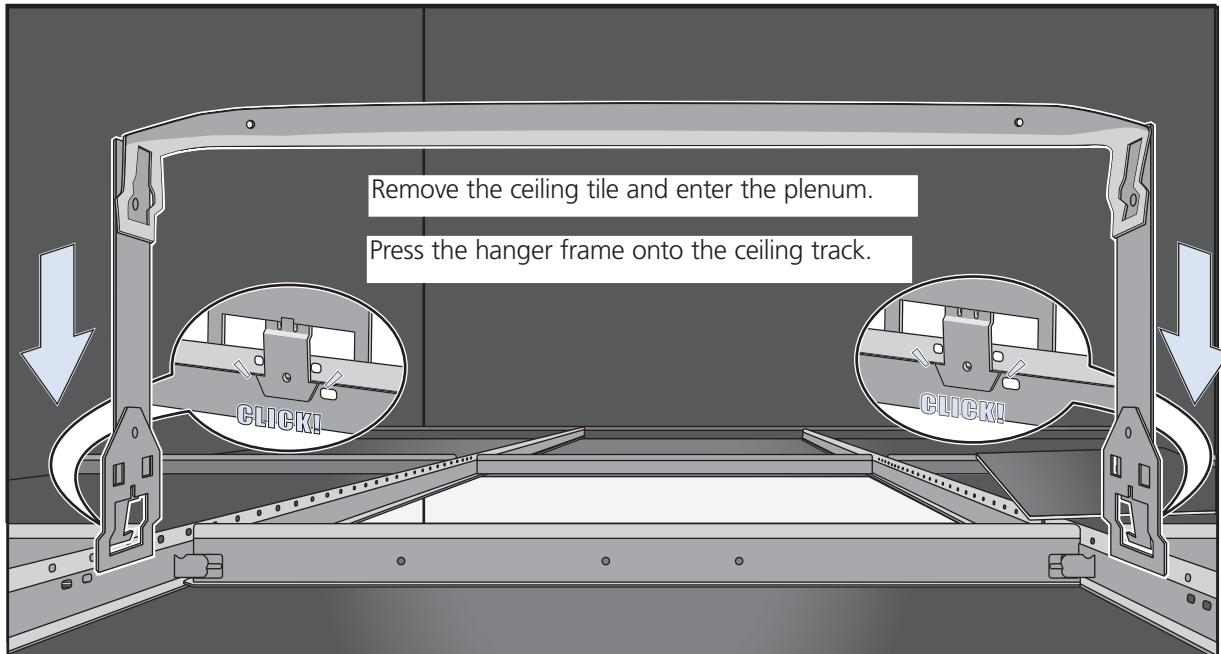

Figure 3-17. Clipping the hanger frame onto the track.
5. Press the hanger frame downward into place on the ceiling track until the claws on each leg grips the track below the top ridge (see Figure 3-17).